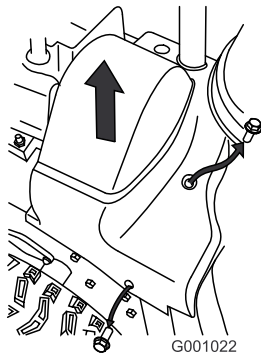

Figure 49
2. Lift up the right side of the belt cover (Figure 49).